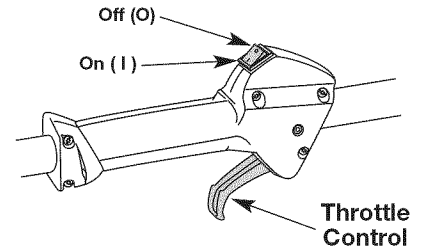

Fig. 13
NOTE: There is no need to turn the unit on. The On/Off Control is in the ON (I) position at all times (Fig. 13).
2. Press and hold the On/Off Control in the OFF (O) position until the engine comes to a complete stop (Fig. 13).
- NOTE:** There is no need to turn the unit on. The On/Off Control is in the ON (I) position at all times (Fig. 13).